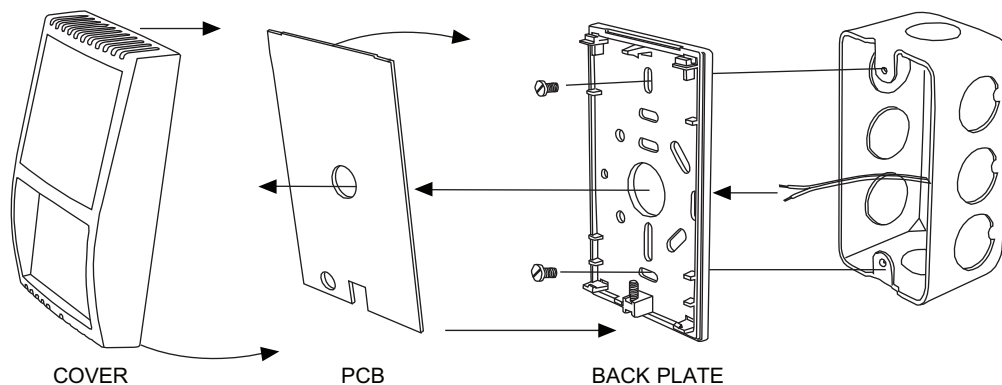

Fig. 25 — Zone Relative Humidity Sensor Installation
11. Snap the circuit board back onto the back plate. See Fig. 25 for proper installation.